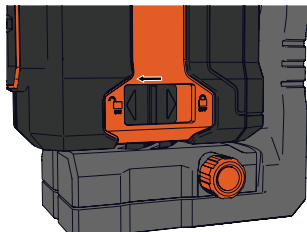

Figure 17
1. Slide the locking compensator/power switch to the left to the unlocked (ON)  position to power on the unit. The level indicator and power indicator will light up. (Figure 17)